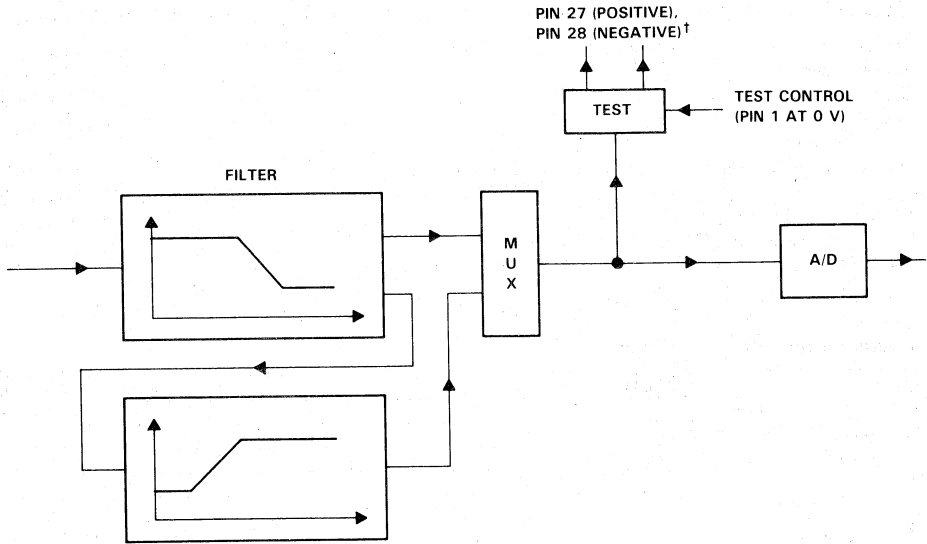

FIGURE 1. BANDPASS OR LOW-PASS FILTER TEST FOR RECEIVER SECTION
In normal operation, the nonusable (NU) pins are left unconnected. These NU pins are used by the factory to speed up testing of the TLC32044 Analog Interface Circuit (AIC). When the device is used in normal (non-test-mode) operation, the NU pin (pin 1) has an internal pull-down to -5 V. Externally connecting 0 V or 5 V to pin 1 puts the device in test-mode operation. Selecting one of the possible test modes is accomplished by placing a particular voltage on certain pins. A description of these modes is provided in Table 2 and Figures 1 and 2.